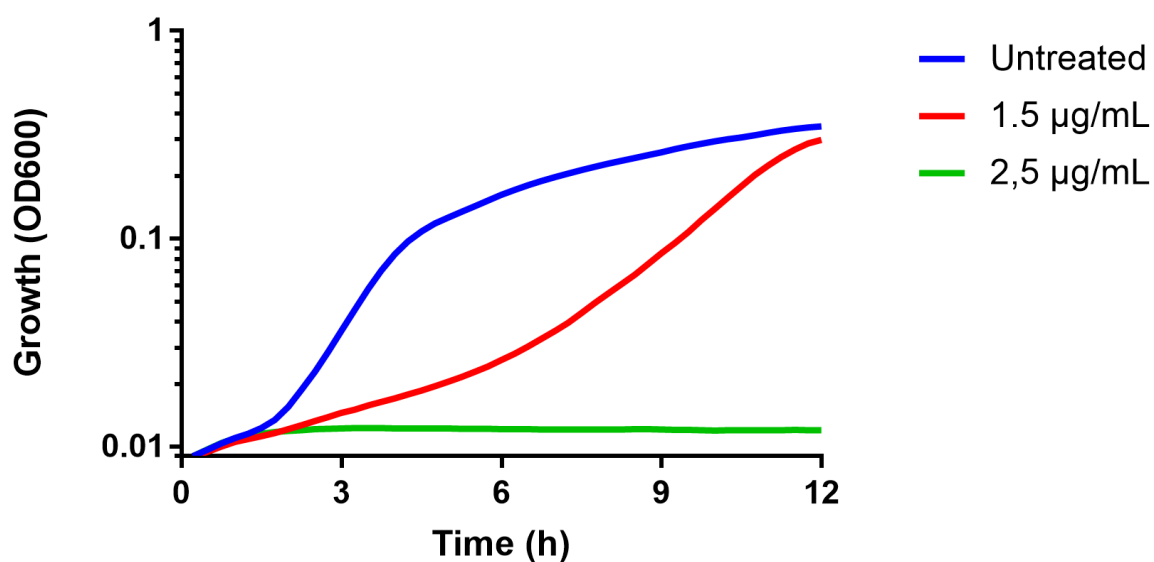

Fig. 1. Representative growth curve of *E. coli* in the absence and presence of different concentrations of the antibiotic nalidixic acid.
- Monitor the OD at 600 nm overnight in a 96 well plate reader. The parameters used are described below. A representative growth curve of *E. coli* in the absence and presence of different concentrations of the antibiotic nalidixic acid is shown in Fig. 1.